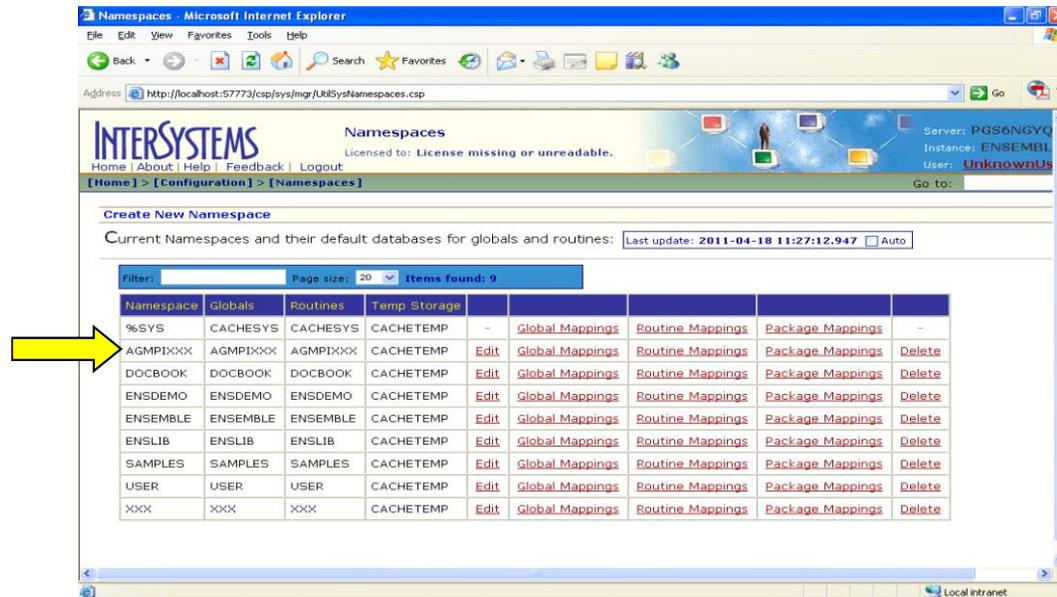

Figure 4-11: Newly created AGMPIxxx namespace in the **Namespaces** page
15. Click **Save** to display the **Namespaces** page, as shown in Figure 4-11.